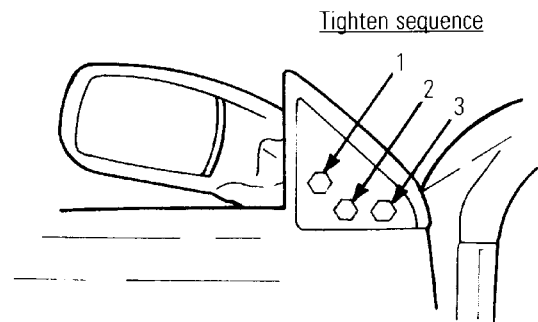

Figure 7
- c) Tighten the bolts in the sequence shown in Figure 7.